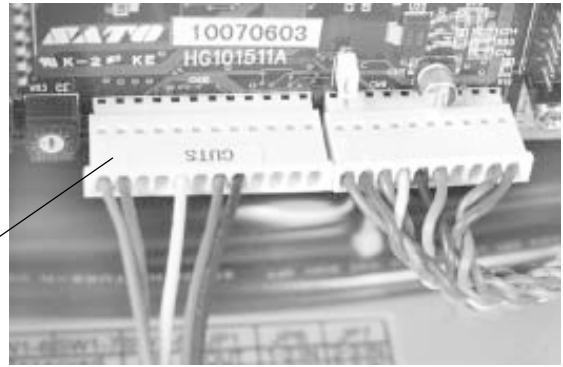

Figs. 9-5
7.	Route the opposite end of cable connectors from the cutter through the access hole in the print engine and through the hole in the aluminum side plate. Figs. 9-5